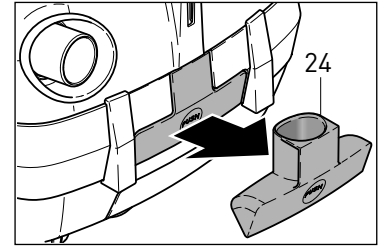
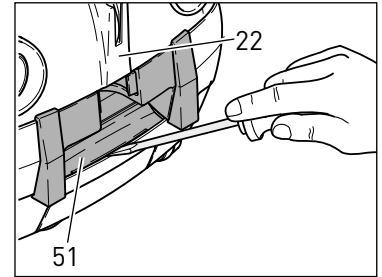
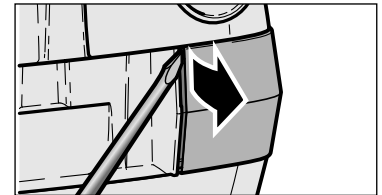
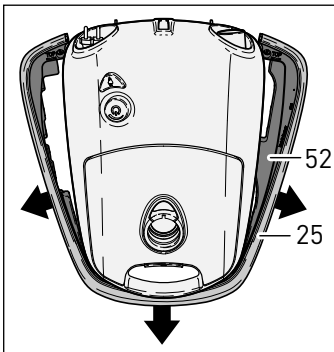

Figure 27
Figure 28
Figure 29
Figure 30
To remove the AIRBELT system (25 & 52), remove the upholstery tool from the rear of the machine (figure 27), and lever out the tool holder (51) using a slot-head screwdriver (figure 28). The AIRBELT system (25 & 52) can then be pried out of the recess with a screwdriver (figure 29) and removed by carefully sliding the assembly toward the front of the machine (figure 30). Remove the damaged textile (25) from the foam bumper (52).